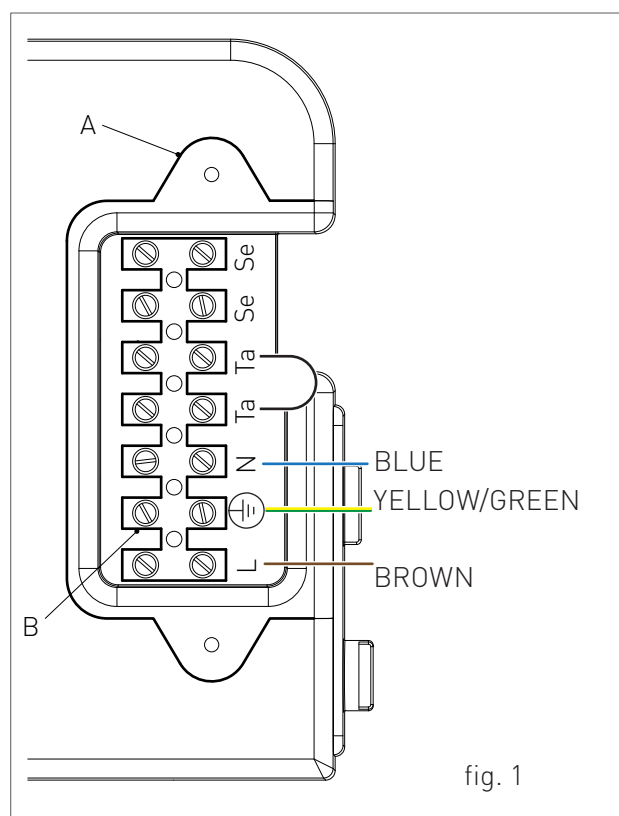

fig. 1
- › loosen the two screws and remove the plate "A" (see fig. 1).
- › after removing the plate, connect the electrical cables to terminal "B" (see fig. 1):
The cables should be inserted inside the boiler using the cable glands 'P1' and 'P2' placed under the board (see fig. 1). Make a hole on the cable gland, smaller than the cable diameter, to make sure that the air cannot pass through.